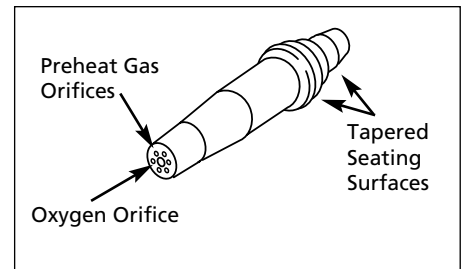

Figure 8 - Cutting Tip
4. For cutting attachment, inspect the tapered seating surfaces on tip and in torch head. Have a qualified technician resurface the seat area if it has dents, burrs or is burned. A poor seating surface may result in backfire or flashback (see Figure 8).